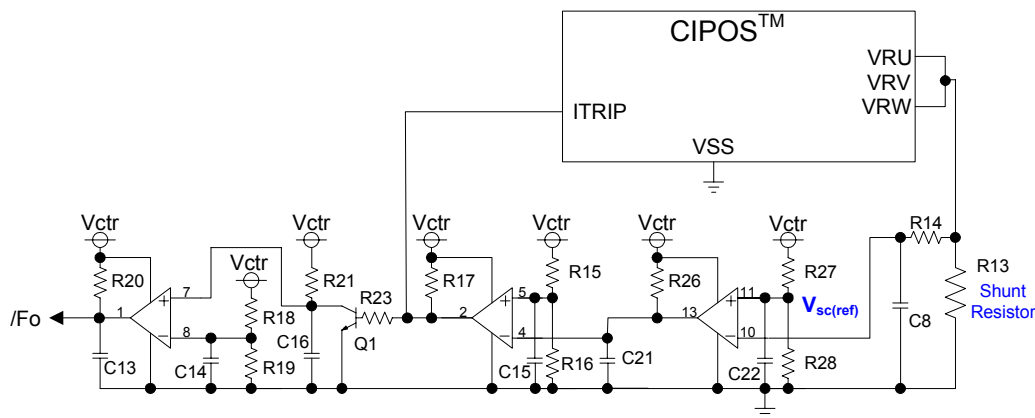
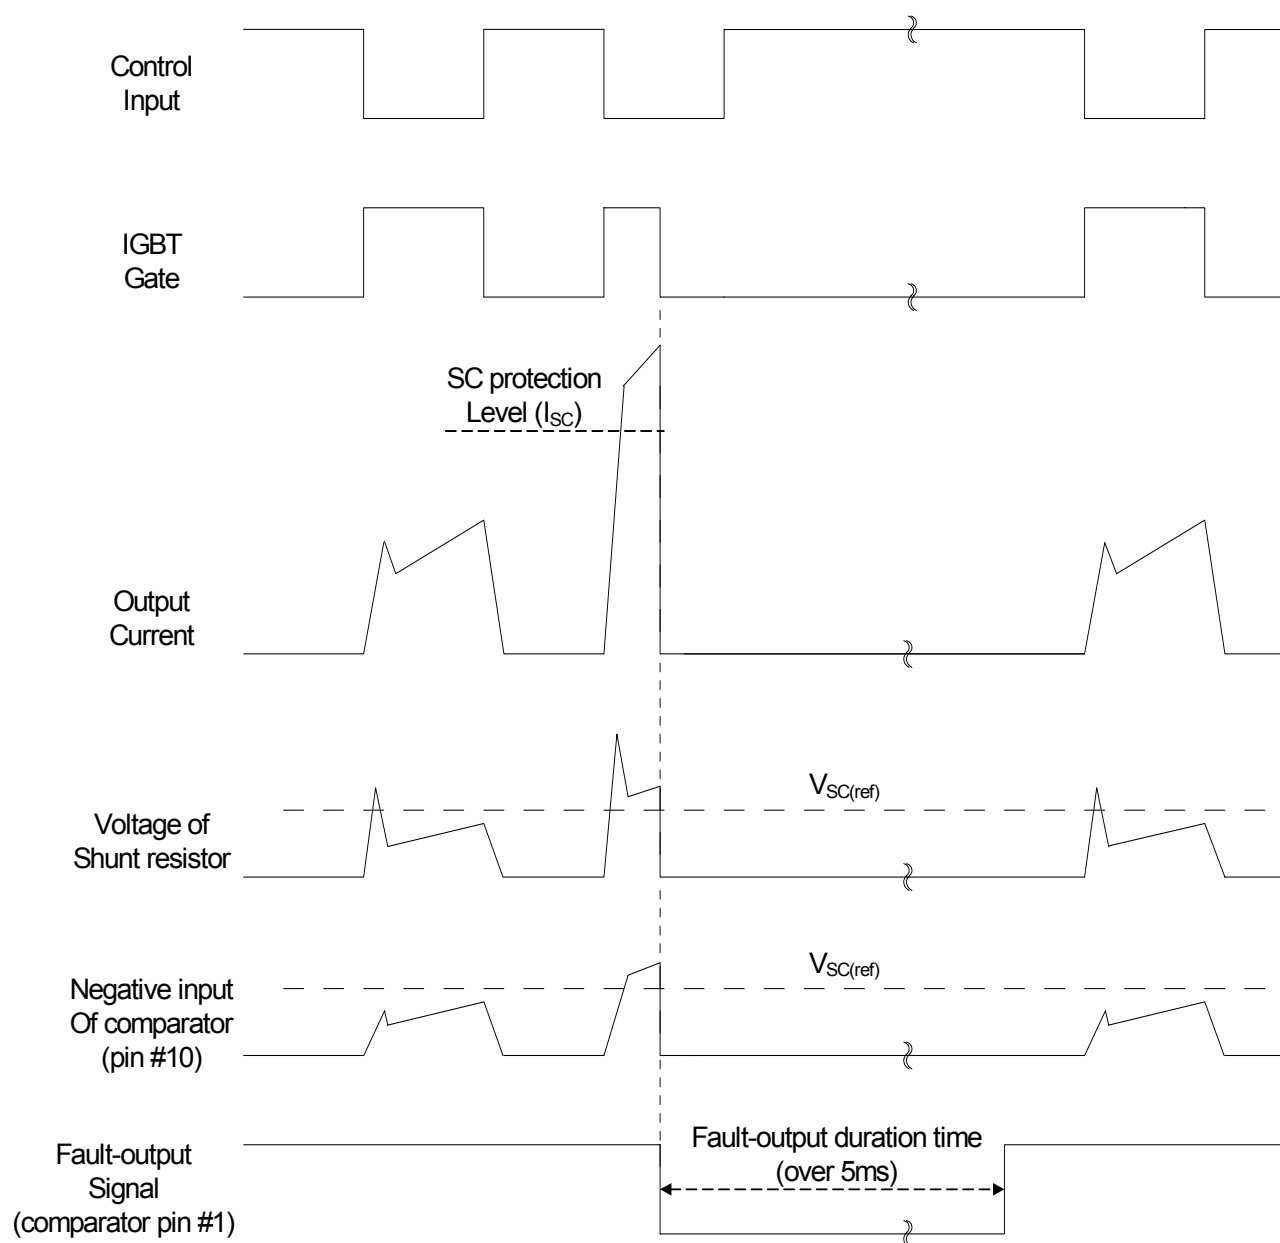

Figure 8 Short-circuit protection circuit
Figure 9 Timing chart of SC protection
The reference board has a comparator circuit for the short-circuit (SC) protection and fault output signal. The SC protection level is decided by reference voltage in negative input of comparator and comparator output is connected to Itrip pin of CIPOS™. Please refer to **Figure 8** for a detail circuit of SC protection.
In the **Figure 8**, $V_{SC(ref)}$ is determined by voltage divider(R27, R28). For example, when the control voltage V_{ctr} is 5V, $R27=10k\Omega$ and $R28=1k\Omega$ then $V_{SC(ref)}$ is $0.45V_{typ.}$. The SC reference voltage should be selected according to the application and user's demand. The resistor for voltage divider should be a precision resistor such as 1% to decrease tolerance.
Please refer to **Figure 8** for the circuit and **Figure 9** for the timing chart of SC protection.